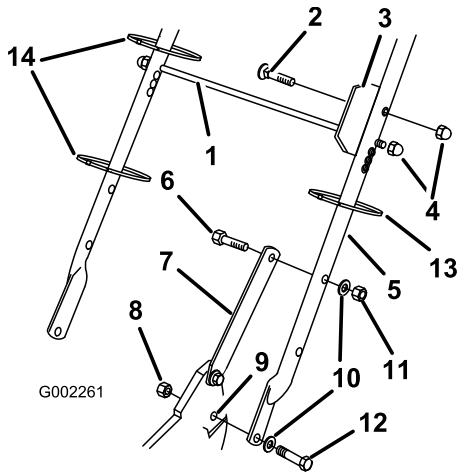

Figure 3
(5/16 x 1-1/4 inches), washers, and thin locknuts (5/16 inch) (Figure 3).
- Secure the handle latches to the handle with 2 bolts (5/16 x 1-1/2 inches), washers, and locknuts (5/16 inch) (Figure 3).
- Insert the carriage bolt through the bag aligning plate and the second from the top hole on the left side of the handle, and secure it with a cap locknut (Figure 3).
- Slide the bag support rod through the third from the top mounting holes in the handle, and secure each end with a cap locknut (Figure 3).
- Use cable ties to secure the control cables to the handle (Figure 3).